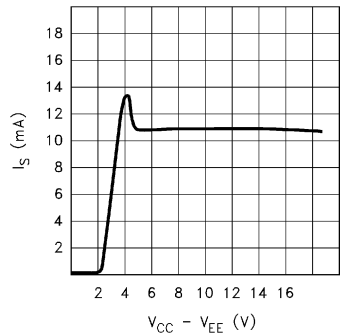

FIGURE 1. IS vs SUPPLY VOLTAGE
**H2** The second harmonic arises from the input stage, and the lower the applied differential signal amplitude, the lower the magnitude of the second harmonic. For practical considerations of required output signal and input noise levels, the user will end up choosing a circuit gain. Referring to Figure 1, it is best if the voltage at the negative feedback node tracks the  $V_{REF}$  node, and the voltage at the positive feedback node tracks the  $V_{IN}$  node respectively. This would theoretically require that  $R_1 + R_2 = R_3$ , although the lowest distortion is found at about  $R_3 = R_1 + (0.7 \cdot R_2)$ . With this arrangement, the second harmonic should be suppressed well below the value of the third harmonic.